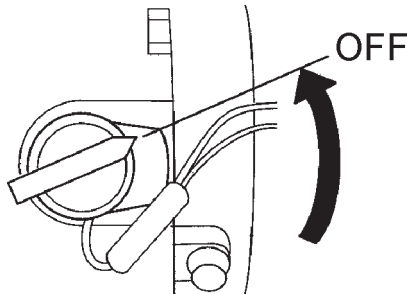

Figure 24. Operation Switch (Stop)
3. Place the **engine ON/OFF** (Figure 24) in the **OFF** position.